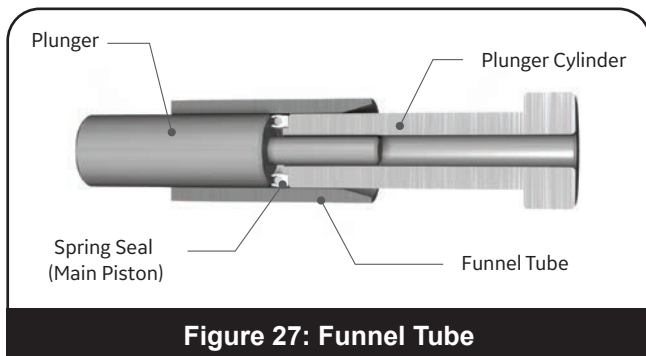

Figure 27: Funnel Tube
- iv. Insert Funnel Tube, chamfer side first, over the Plunger and Spring Seal (Adjuster Top). Stop when Spring Seal (Adjuster Top) is about half way inside the Funnel Tube as shown in Figure 27.